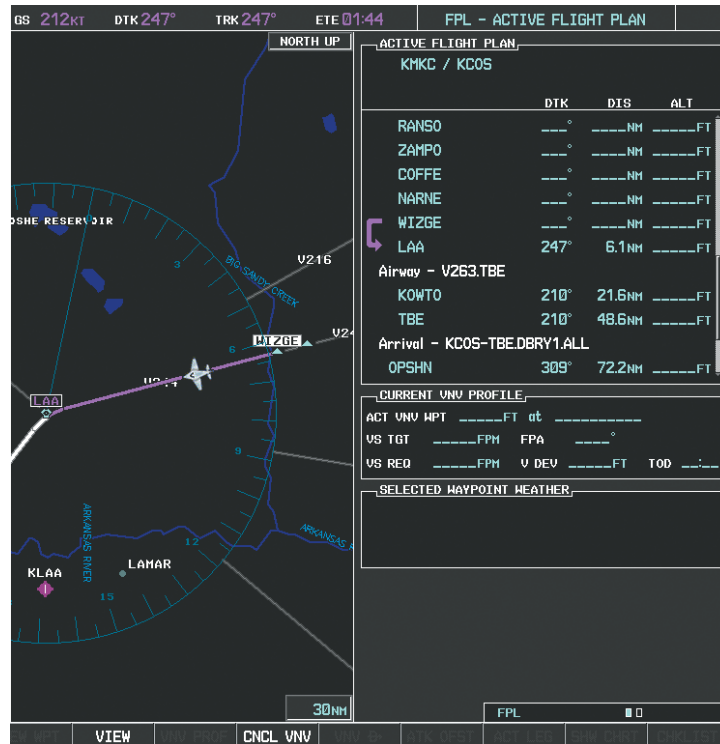

Figure 5-126 WIZGE to LAA Leg Active
10) At Lamar VOR (LAA) V263 is intercepted. See Figure 5-126.